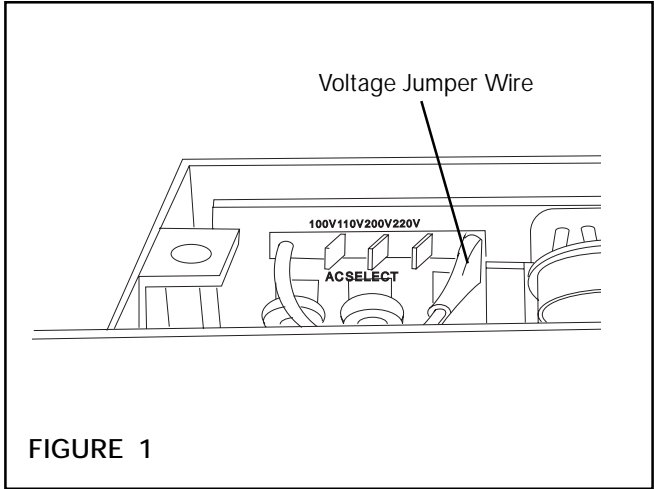

FIGURE 1
2. Set Voltage Jumper Wire to correspond to AC Voltage supplied to TCD 030. Select from 100, 110, 200, or 220VAC (See Figure 1).